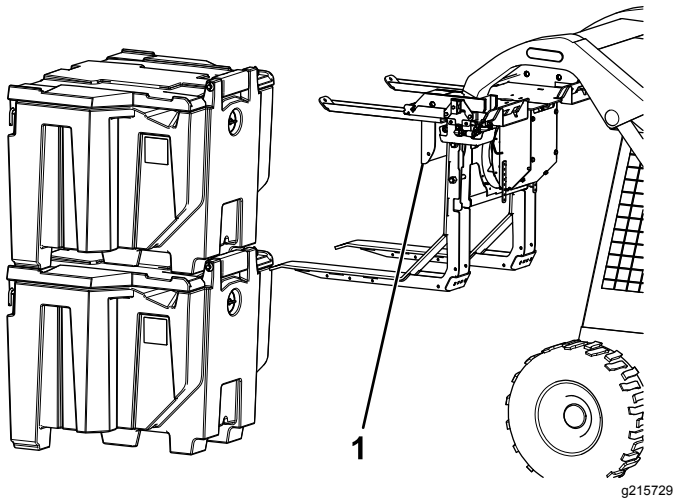

Figure 12
1. Start the skid steer, and tilt the spreader frame forward until the forks are parallel to the ground (Figure 12).
2. Drive the machine forward and insert the frame forks into the channels on the cube until the cube is flush against the cube stop (Figure 12).